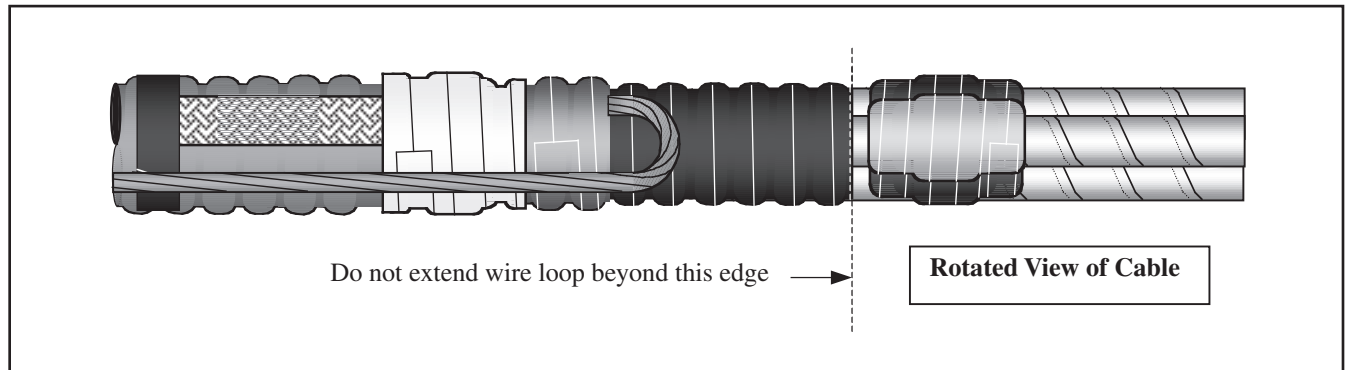

Figure 6
- 2.9 Loop cable ground wire back over armor (*Figure 6*). Adjust ground wire position over cable jacket to run parallel with tail of ground braid assembly.